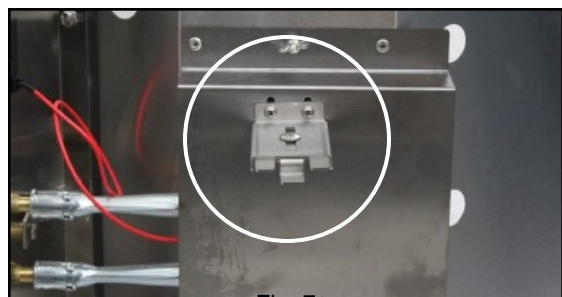

Fig. 7
1. Located on the underside of grill pit, mount the LP tank fastener to the underside of the heat shield with (2) 10-24 x 1/2" Phillips Head Screws as shown in (Fig. 7).